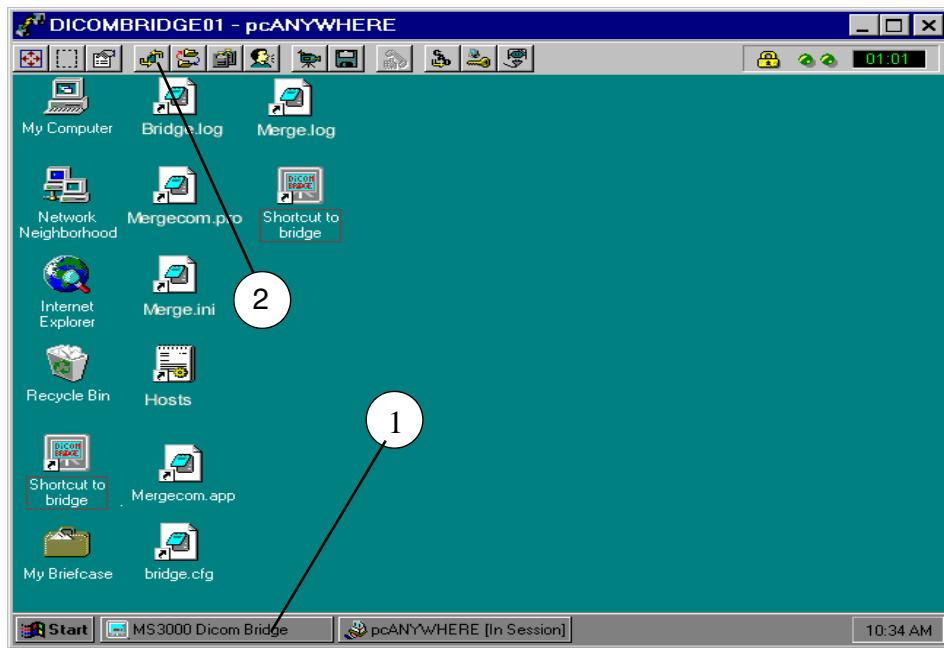

Fig. 6
- Select the task bar of the "MS3000 Dicom Bridge" DICOM window (1/Fig. 6) and terminate the program.